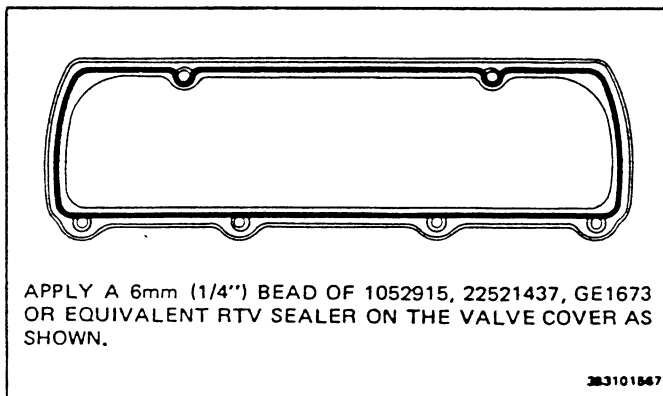

Fig. 15 Sealing Valve Cover
- Head and valve cover gasket surface. Apply 1052915, 22521437, G.E. 1673 RTV sealer or equivalent to the valve cover (Fig. 15).